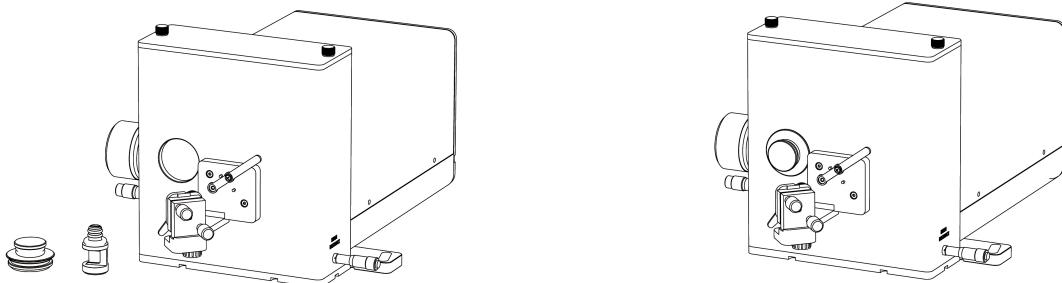

Figure 3.6.: Optical Head and crystal module (left - removed; right - installed)
3. Open crystal lid (pull) (see Figure 3.6).